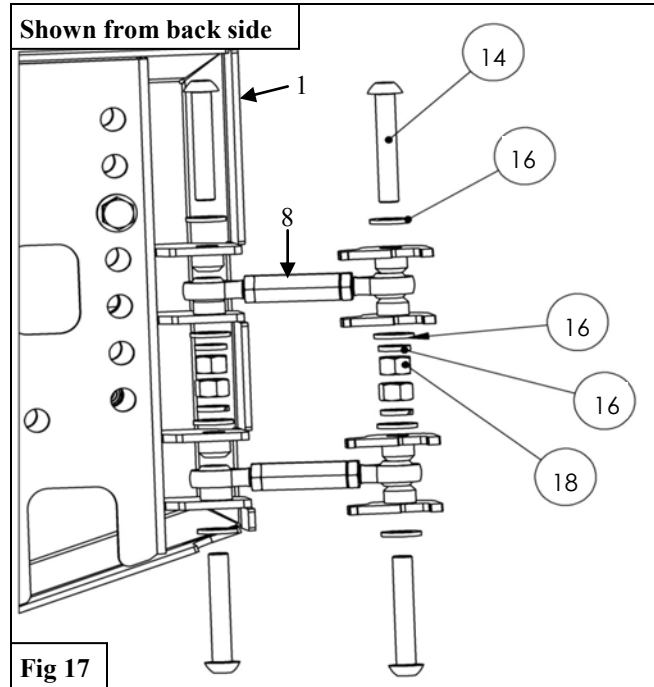

Fig 17
13. Lift the Tire Carrier Assembly and carefully slide it onto the Spindle (2).
14. Install the M24 Castle Nut (28) onto the Spindle (2). You may now tighten the Castle Nut (28) just until tension is felt. Then, place the 4mm Keystock (31) in the slot on the Castle Nut (28) and Spindle (2).
15. Loosely install the Turn Buckles (8) at this time. **See Figure 17.**